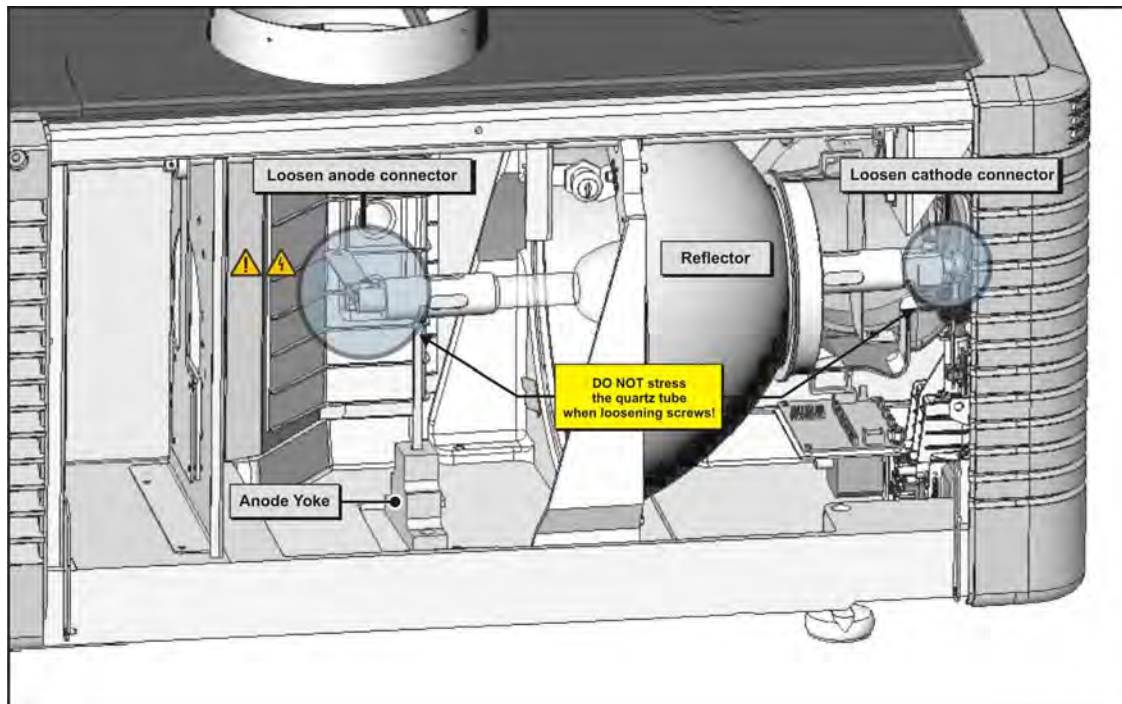

Figure 5-57 Remove Lamp
- b. Loosen the screw on the cathode nut and anode clamp. (Figure 5-57)